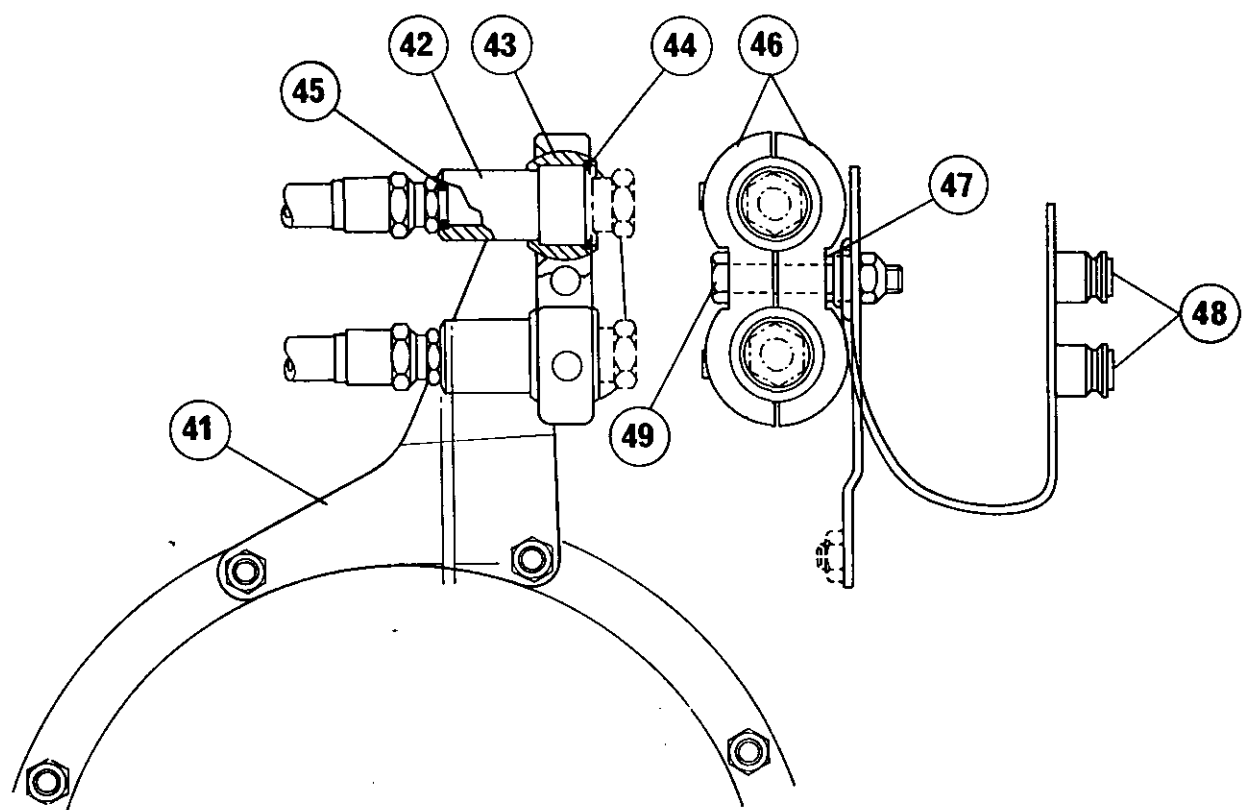

FIG. 10
2. Screw a  $\frac{3}{4}$ -16 UNF straight connector (18) into the upper L.H. port (single or twin spool valve) and into the upper, centre port (twin spool only).
3. Screw the extended  $\frac{3}{4}$ -16 UNF straight connector (36) into the lower port(s).
4. Attach the 90° end(s) of the outlet 'feed' hose(s) (37 or 38) to the upper straight connector(s) (18). (These are the smaller diameter hoses).
6. Fig. 10. Remove the two top fixings from the L.H. trumpet housing, then locate the L.H. coupler mounting bracket (41) and refit the nut and bolt.
- 6A. Twin Spool Only:— Repeat operation (6) for the R.H. coupler mounting bracket.
7. Slide a 'Pioneer' coupler (42) through each gimbal ring (43) and secure each with a retaining ring (44).
8. Fit an 'O' ring (45) to each outlet hose end, then screw a 'Pioneer' coupler assembly on to each hose.
9. Assemble the 'Pioneer' couplers in pairs, with two clamps (46) a spacer (47) and a pair of plugs (48). Slide a  $\frac{7}{8}$  UNF x 75 mm (3 in) bolt (49) through the brackets and the spacer, then locate the loops of the plugs (48) over the spacer, before bolting the assembly to the mounting bracket (41) (centre hole).